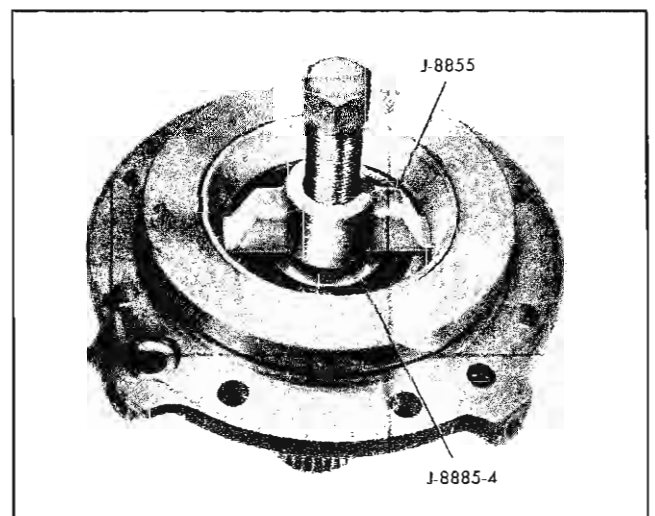

Fig. 4-46 Removing Rear Pinion Bearing Outer Race
2. Remove rear pinion bearing outer race using J-8855 and button J-8855 (Fig. 4-46).
4. Remove rear pinion bearing outer race from retainer using tool J-8855 with J-8855-4 adapter (Fig. 4-46).